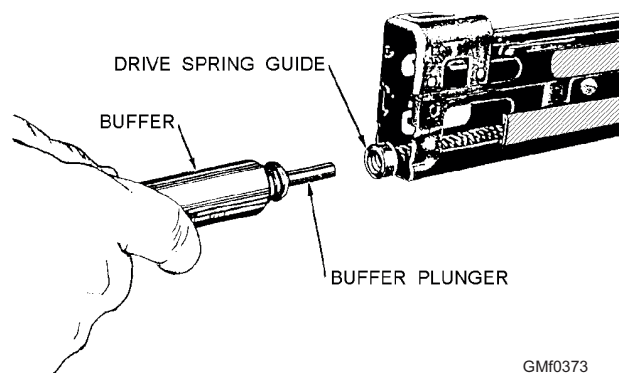
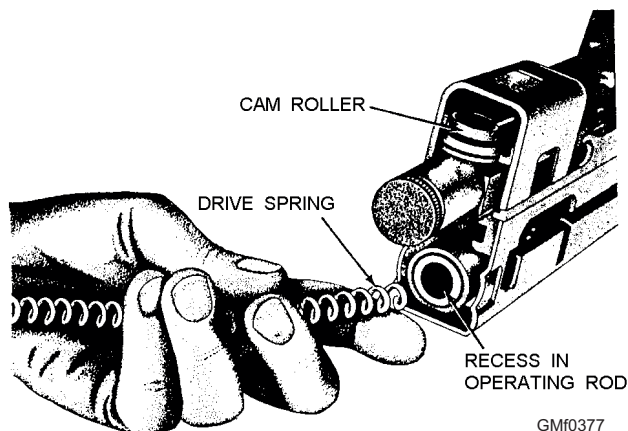

Figure 3-73.—Separating the buffer from the drive spring guide.
Figure 3-77.—Inserting the drive spring.
REMOVING THE BUFFER GROUP.—The buffer assembly group consists of the buffer yoke and the buffer. To disassemble the group, hold the palm of the hand against the exposed buffer and press lightly. Remove the buffer yoke from the top of the receiver as illustrated in figure 3-72. Withdraw the buffer slowly. Allow the drive spring to expand until the end of the drive spring guide is exposed at the rear of the receiver. Pull the buffer plunger from the drive spring guide (fig. 3-73).
hand, push forward on the rear of the bolt, causing the bolt to rotate until the locking lugs are in the vertical position. With the cam roller up, push the operating rod and bolt into the receiver until the end of the operating rod is even with the rear of the receiver. Insert the drive spring guide into the drive spring; then insert the opposite end of the drive spring in the recess of the operating rod, as shown in figure 3-77. Pull the trigger and push in the drive spring until the head of the guide is approximately an inch from the receiver (fig. 3-73).
4. Insert the buffer plunger into the drive spring guide, as shown in figure 3-73. Push forward on the buffer until the operating rod and bolt go fully forward. Push in on the buffer until the recesses on the buffer are aligned with the recesses in the receiver. Replace the buffer yoke from the top of the receiver, as shown in figure 3-72.